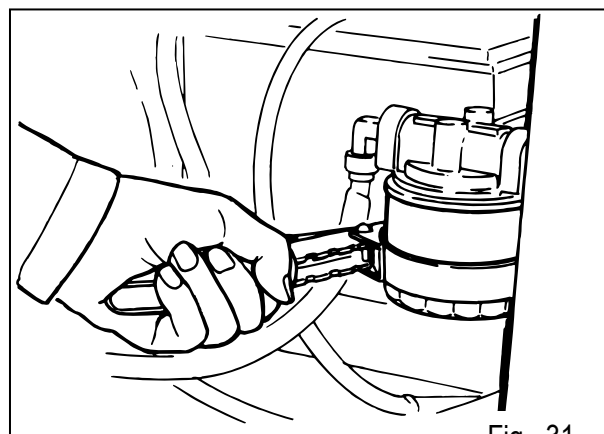

Fig. 31
a) Oil filter replacement (Fig.31)